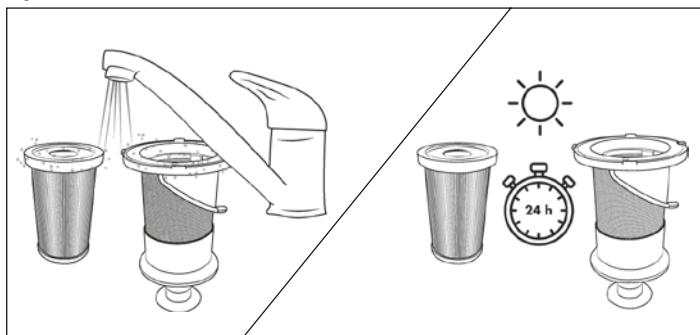

Fig. 20
- 5) Rinse the HEPA filter ⑤ and the stainless steel filter ⑥ under cold or luke-warm water. Allow the HEPA filter ⑤ and the stainless steel filter ⑥ to air dry completely before putting them back into the dust container ⑦ (see Fig. 20).